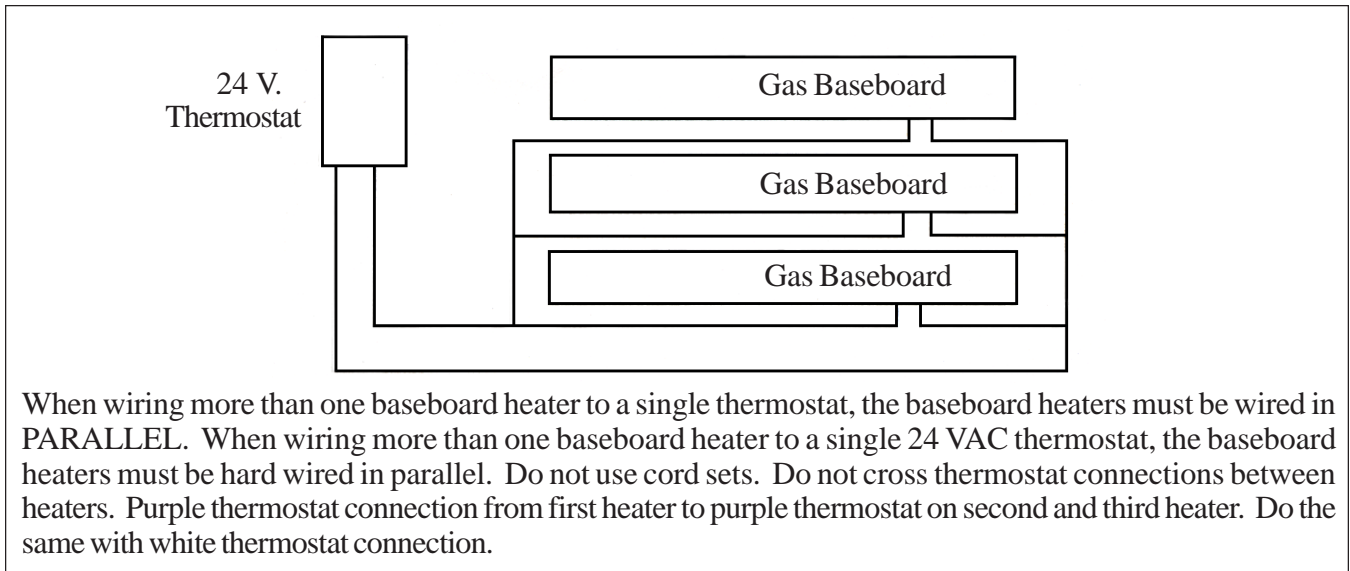

FIGURE 10
- d) If more than one baseboard heater is being controlled from a single thermostat, the 115 V. supply must be supplied from the same circuit. When wiring more than one baseboard heater to a single 24 V. thermostat, the baseboard heaters must be hard wired in parallel. Do not use individual cord sets. See Figure 10.